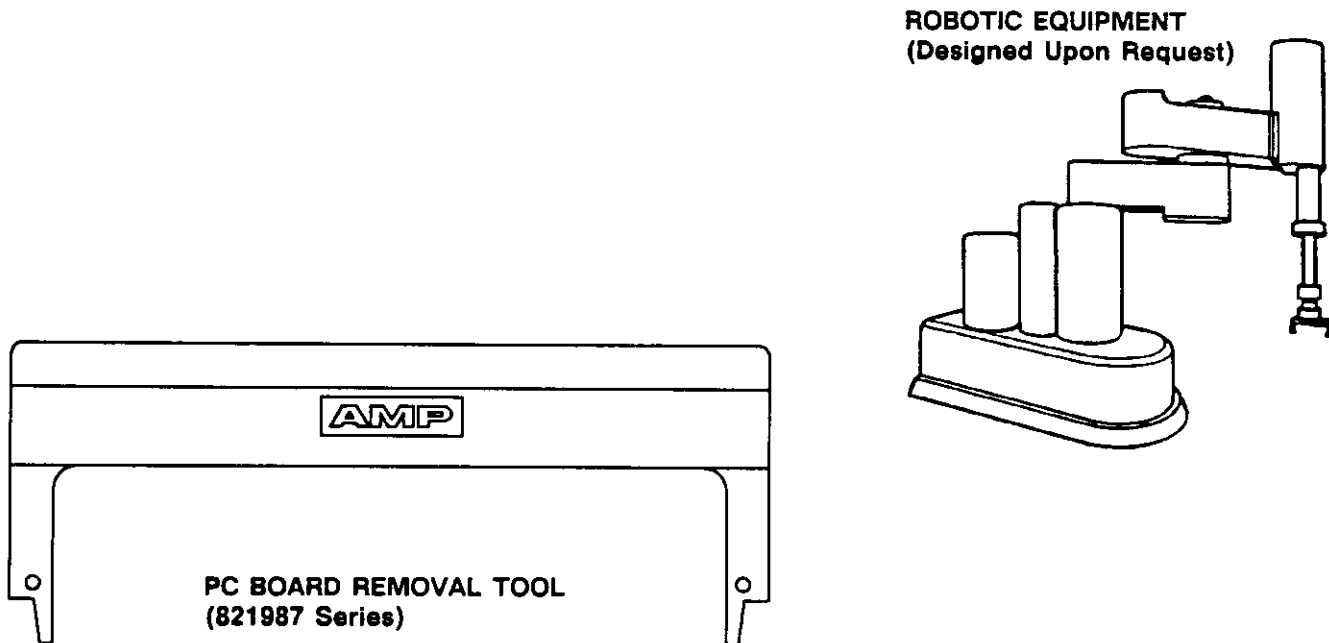

Fig. 6. Tooling
5. TOOLING (Figure 6)
Individual daughterboards can be removed without the use of a tool. However, for convenience, especially when multiple connectors are in a closely confined area, the removal tool is recommended. It is adjustable to the various connector sizes that are available. See Figure 6.